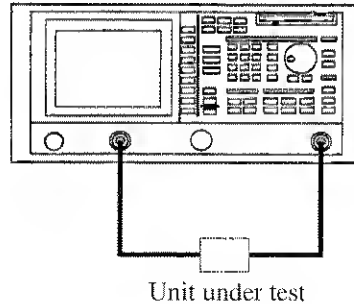

Figure 2-87 Connecting the Unit under Test
10. Connect the unit under test between TG OUTPUT and RF INPUT1 as shown in Figure 2-87.